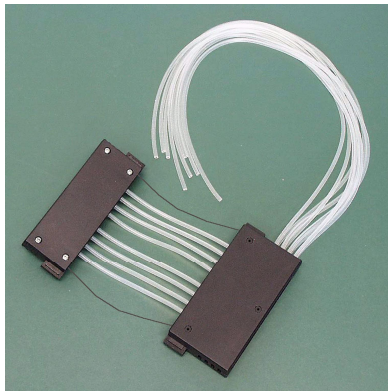

Figure 5-48. Ensuring the tubing does not get trapped
13. Ensure that you do not get the tubing trapped or bent between the bottom and upper cover of the upper part of the dispensing cassette (Figure 5-48).